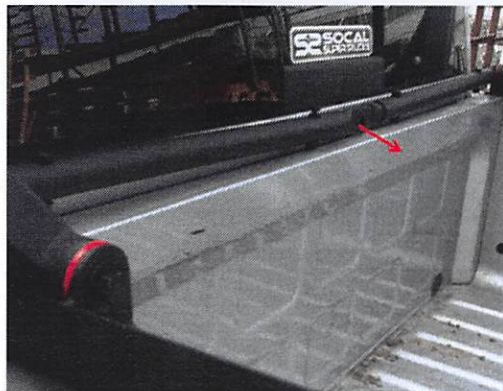

Figure 22: The headache assemblies attached to the vehicle, the arrows show the direction the (2) headache end fittings should face
Step 27: To attach the headache tube assembly onto the headache end fittings installed in step 24. Use (1) M10x50 bolt, (2) M10 washers, and (1) M10 lock nut. Make sure the headache end fittings are already attached to the headache outer tube and are facing away from the cab. The M10 lock nuts should just be hand tight at this point. Repeat for the other side of the vehicle. Figure 22 shows how the headache assemblies should look and how to rest them on the vehicle temporarily until later in the install.